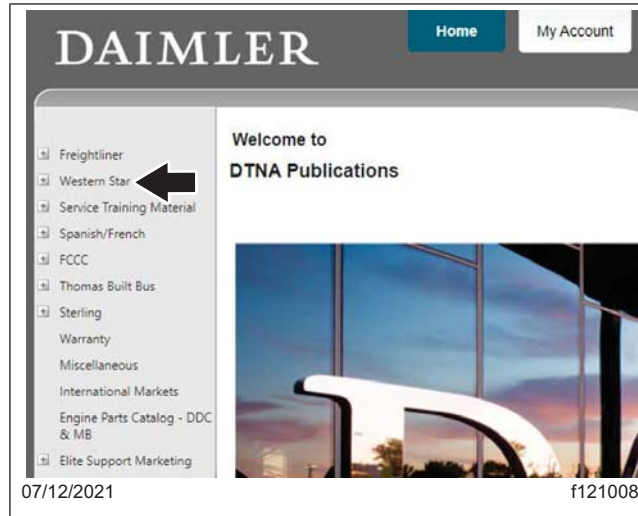

Fig. 4, Western Star
- Select 'Western Star.' See Fig. 4.